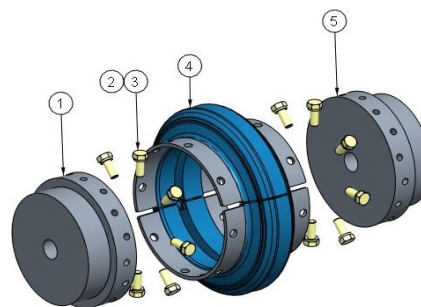

Fig.1
- Tyre couplings are delivered by RTPL as assembled condition which consists components as shown in fig.1 & 2.